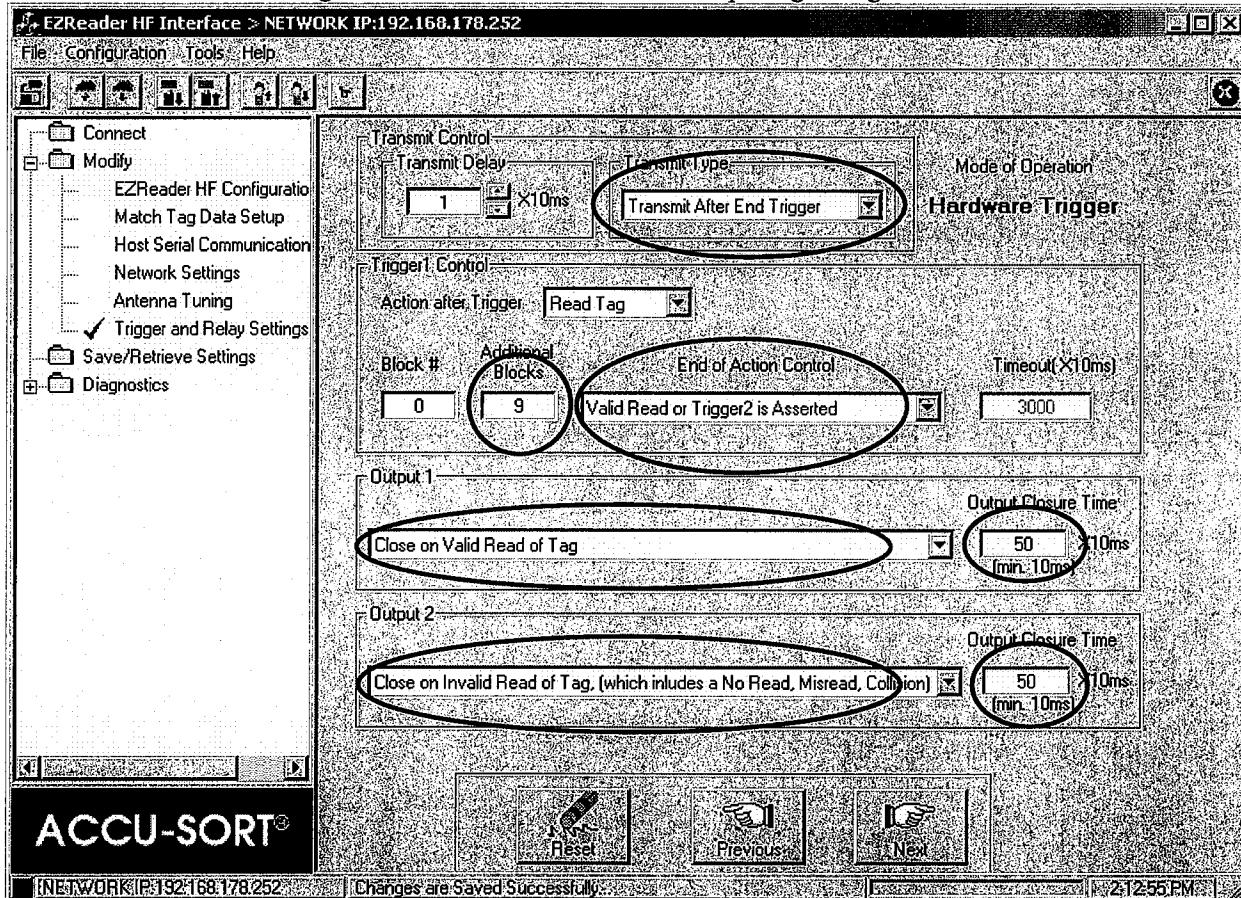

Figure 29
- 9.13.2 Under the GUI's Trigger and Relays Settings page make the changes shown in Figure 29 and SAVE them. Fields requiring changes are circled.